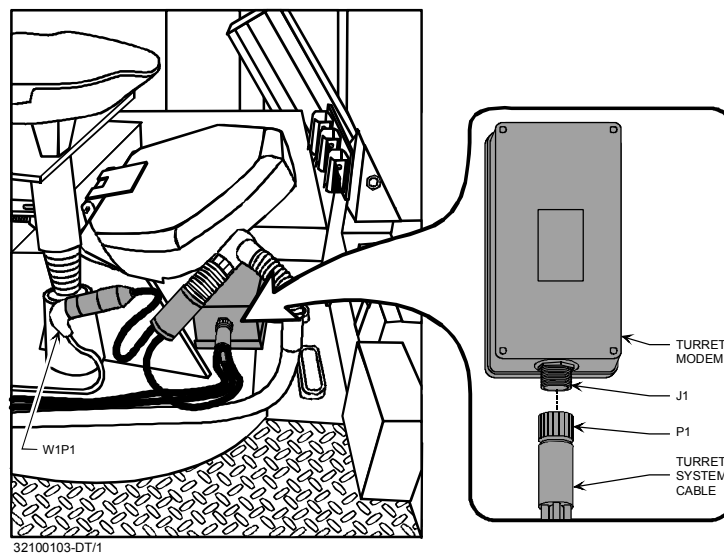

Figure 2-31. Turret Modem Connection.
- Route segment (P1-orange sleeve) to the turret modem, and connect (P1) to (J1) of the turret modem. (See Figure 2-31.)
- Route segment (P2) to the vehicle system W1P1 cable, and connect them (See Figure 2-31.)